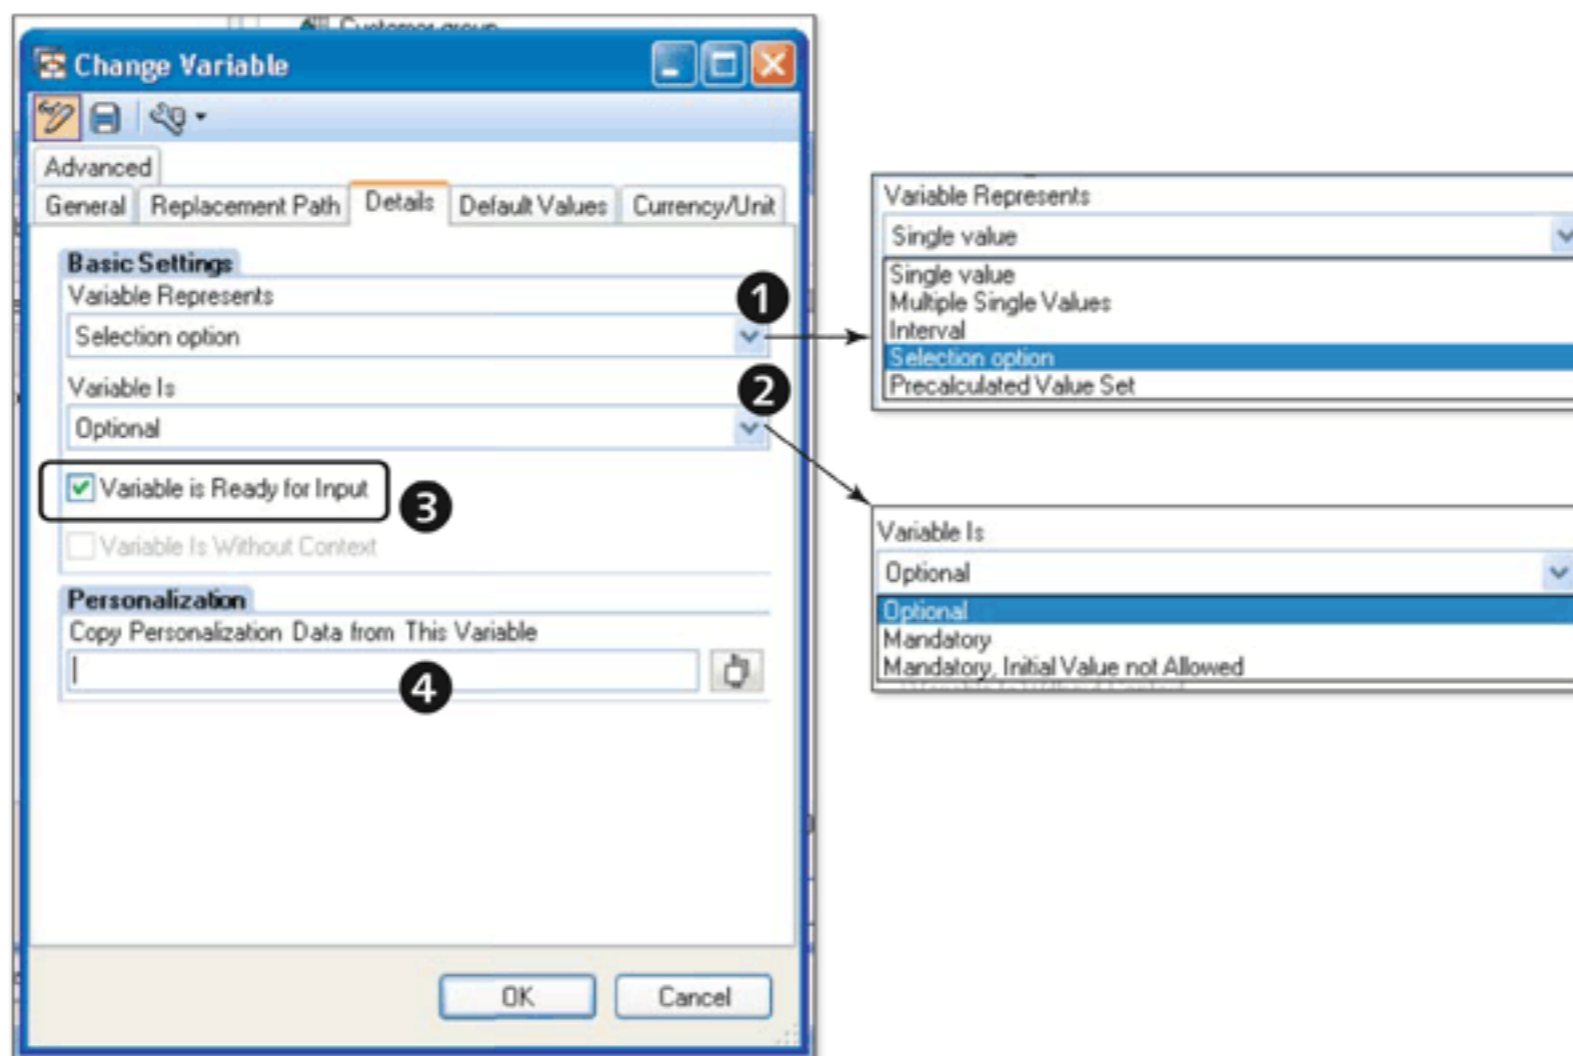

Figure 9.27 Details Tab for VAR_MATGRP
Select the processing type of the variable from the PROCESSING BY dropdown menu (❹). The characteristic visible in the field REFERENCE CHARACTERISTIC (❺) is the base for the variable. The remaining definition for this variable is defined on the DETAILS tab, as shown in Figure 9.27.
On the DETAILS tab, you decide what the variable represents from the available options (❶ of Figure 9.27). You can also define if the variable should be an
The checkbox setting VARIABLE IS READY FOR INPUT is an important setting for a variable (3 of Figure 9.27). If this setting is checked, then the variable appears on the selection screen when the query is executed, and the user can input the values for the variable. If the box is unchecked, the user can't input the value for the variable, so the query is executed using the default values of the variable. For our example variable, we need the user to select MATERIAL GROUP, so VARIABLE IS READY FOR INPUT is checked.